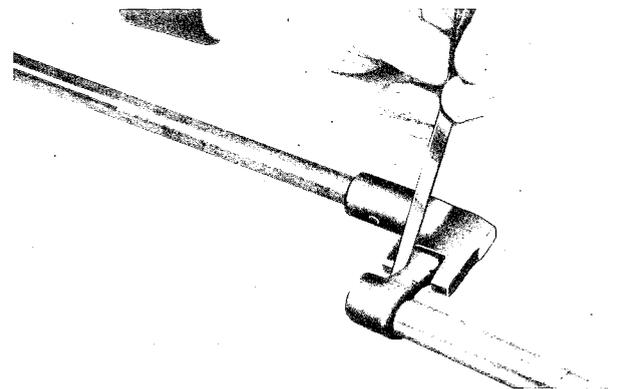

Fig. 7-11 Checking control rod
2. Check the clearance between the control lever and the gate of the shift rod, as shown in Fig. 7-11. If this clearance exceeds **0.8 mm (0.031 in)**, replace the control lever or the shift rod.